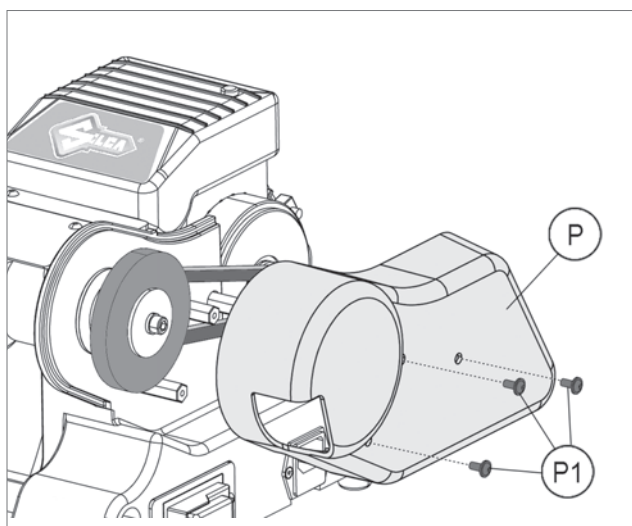

Fig. 49
- 1) Remove the cover (P) by loosening the screws (P1) (Fig. 49).